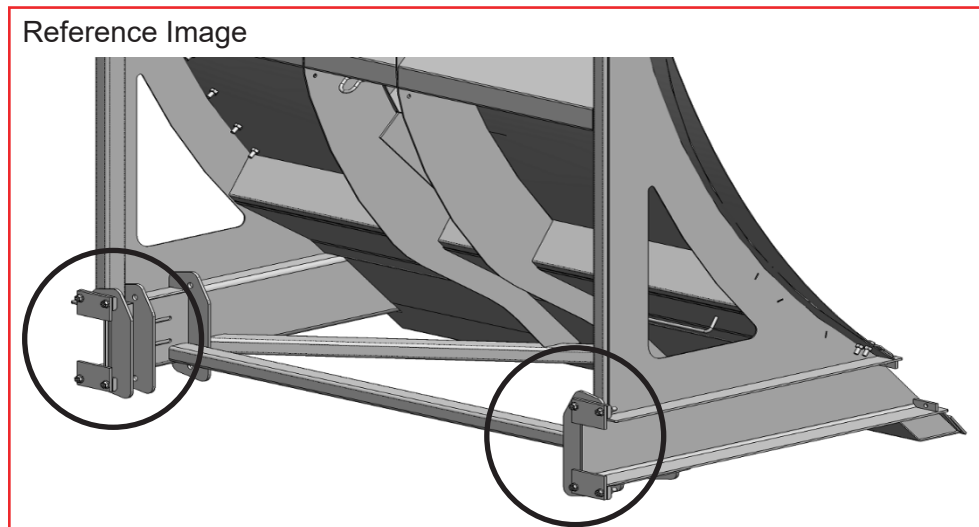

Figure 1
6. Locate the front upper and lower ejector shoe plates and their hardware on both sides of the ejector (Figure 1 is a reference image showing the location of both ejector shoe plates. Some components are hidden for clarity).